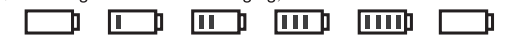

Figure 5
- Plug the power adaptor into the corresponding connector (See Figure 5)
- LCD indicates the charging progress as in Figure 5 (No testing allowed while charging).
a. When LCD screen displays "□" during operation, the user should insert the adaptor in a timely manner. See Figure 5 in the Manual.